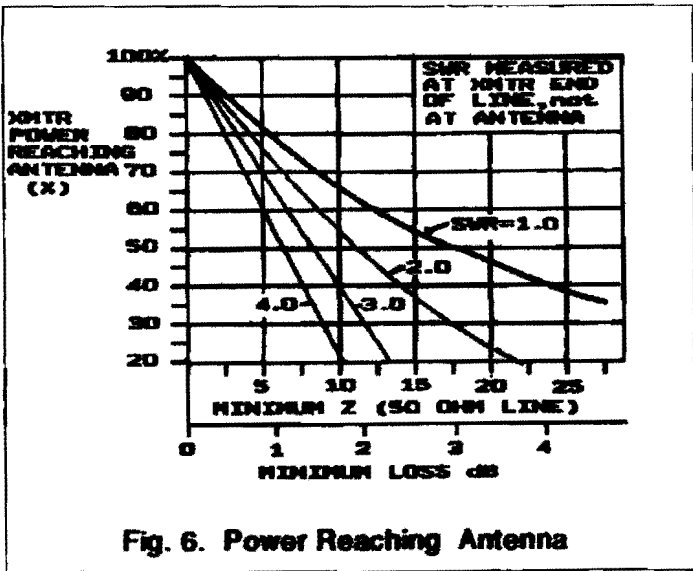

Fig. 6. Power Reaching Antenna
Fig. 6 shows the effect of SWR on power reaching the antenna. For example, if you measure 6 ohms minimum Z with 50 ohm line, or calculate 1 dB loss with any line impedance, Fig. 6 shows that about 80% of a transmitters power reaches the antenna if the SWR is 1. However, if the SWR is 4, only 55% reaches the antenna. The lost power mostly heats up your transmission line. Lossier lines are affected more by high SWR. Note that SWR is always lower at the transmitter end of a transmission line because of line losses. This is where the SWR of Fig. 6 is measured.
3. **An antenna tuner does not change SWR on the line.** It only makes your transmitter happier since it sees the lower SWR. However, all the line losses caused by SWR (See Fig. 6) are still there. In addition, the tuner introduces additional loss, which can be significant. The popular "T" configuration tends to be the lossiest. If you can, put an efficient matching network right at the antenna and avoid all these losses.